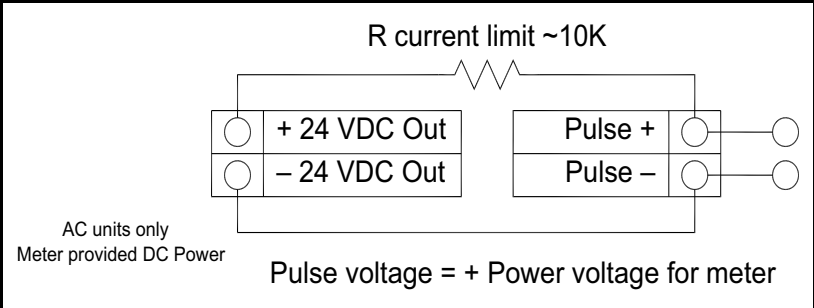

Figure 40: Isolated Pulse Output Using Provided Power Supply
- For AC powered meters only, use the internal 24 VDC power supply (see *Figure 40 on page 43*). Use this option if the voltage of the pulse output is the same as the voltage supplied to the circuit.